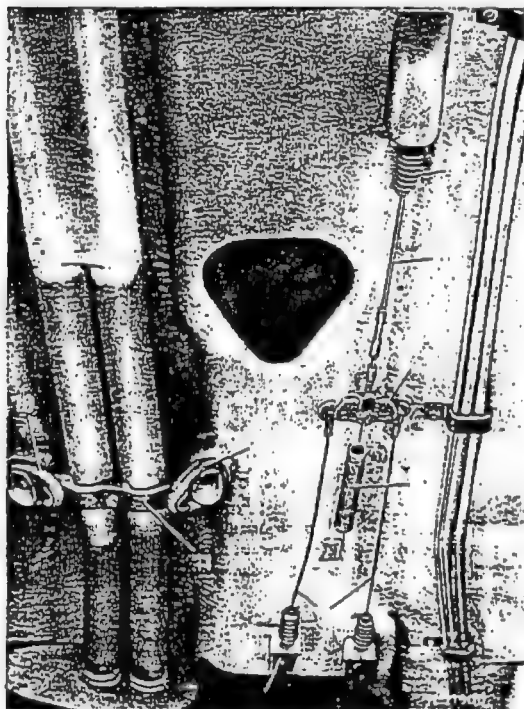

Fig. 42-18/9
1. Detach the return spring (2) from the chassis base panel bracket and from the equalizer (3) (Fig. 42-18/9).
2. Pull the cotter pin out of the collar bolt and remove the collar bolt from the equalizer and remove the front brake cable (6) from the equalizer (Fig. 42-18/9).
5. Remove the rubber grommet (9) from the brake cable.